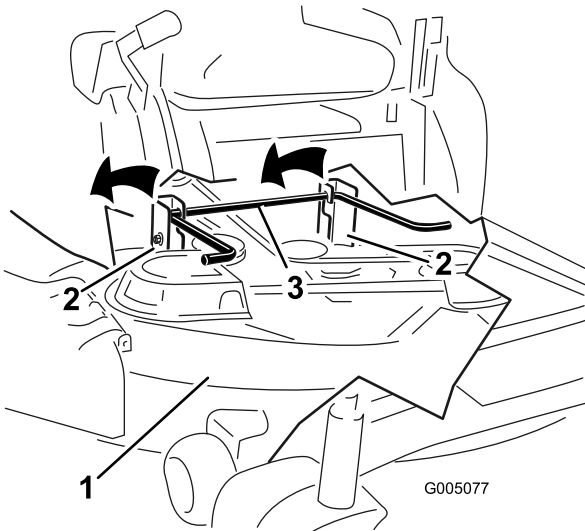
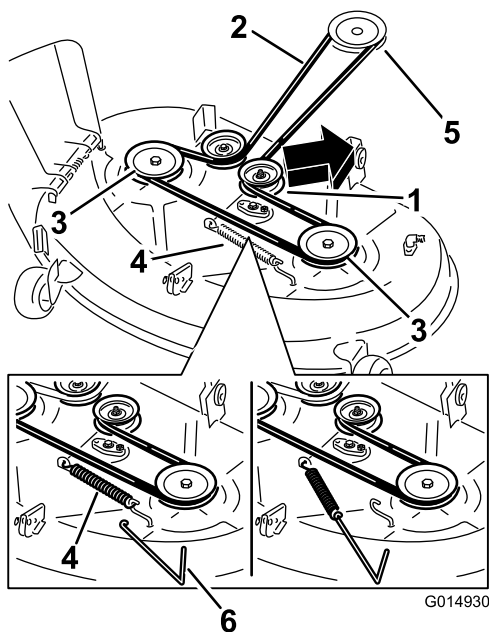
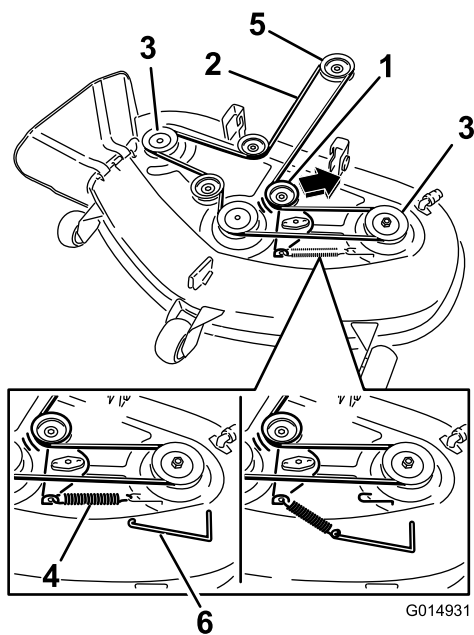

Figure 57
Figure 58
Figure 59
4. Using a spring-removal tool, (Toro Part No. 92-5771), remove the idler spring from the deck hook to remove tension on the idler pulley, and roll the belt off the pulleys (Figure 58 and Figure 59).
5. Using the mower deck handles, lift the mower deck and hanger brackets clear of the rear lift rod and lower the mower carefully to the ground (Figure 57 and Figure 59).
- Using a spring-removal tool, (Toro part no. 92-5771), install the idler spring over the deck hook, and place tension on the idler pulley and mower belt ((Figure 58 and Figure 59).
- Lift the rear of the mower deck and guide the hanger brackets over the rear lift rod (Figure 57).
- Route the new belt around the engine pulley and mower pulleys (Figure 59).